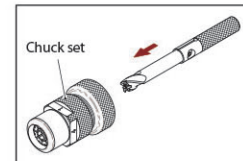

Fig. 2-5
- ✳ When assembling with the chuck set, put it in from the rear of the chuck set. (Fig. 2-5)